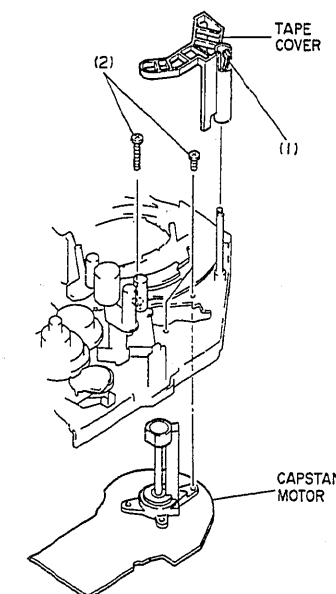

Fig. 2-4
2-4. Tape cover, capstan motor bracket, capstan motor (Figs. 2-4, 2-5)
- 1) Release tab (1) and pull out the tape cover from the chassis. (See Fig. 2-4)
- 3) Remove three screws (2) holding the capstan motor. (See Fig. 2-4)